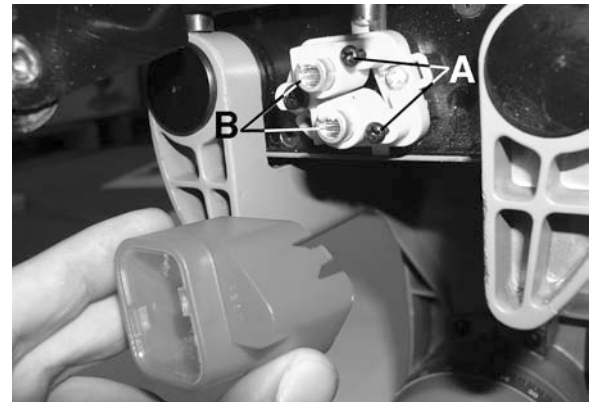

Figure 17
3. To move the entire laser guide assembly towards the right or left, loosen pan head screw (A) Fig.17, move laser guide assembly to desired position and retighten pan head screw (A).
4. To adjust only one laser, loosen or tighten either the bottom pan head screw (B) to adjust the bottom laser or the top pan head screw (C) to adjust the top laser. Adjust until the laser beams are perfectly aligned with both sides of the blade kerf.